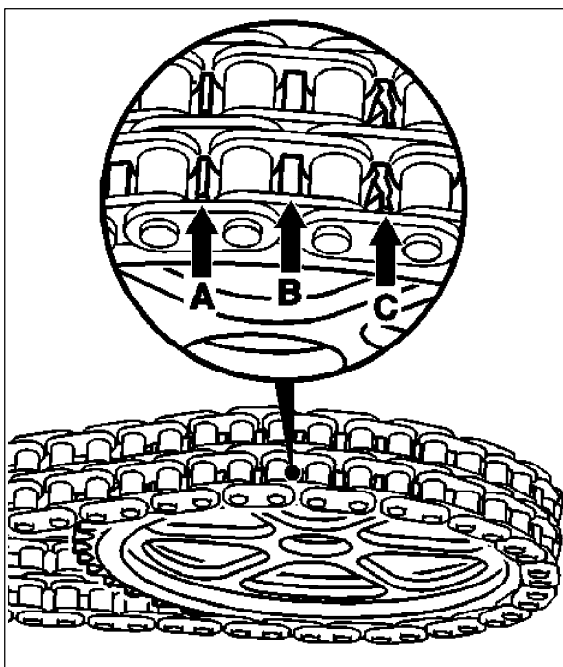

Figure 3
Turn the engine 2 complete revolutions (in normal rotation) using the crankshaft pulley bolt and inspect the camshaft sprocket (B, Figure 3 [undamaged tooth]). If the teeth are worn (A) or broken (C) the camshaft sprocket and injection pump timing sprocket must be replaced (Engine 602/603 SMS, Job No. 07.1-240) or (Engine 606 SMS, Job 07.1-8014) along with the timing chain.